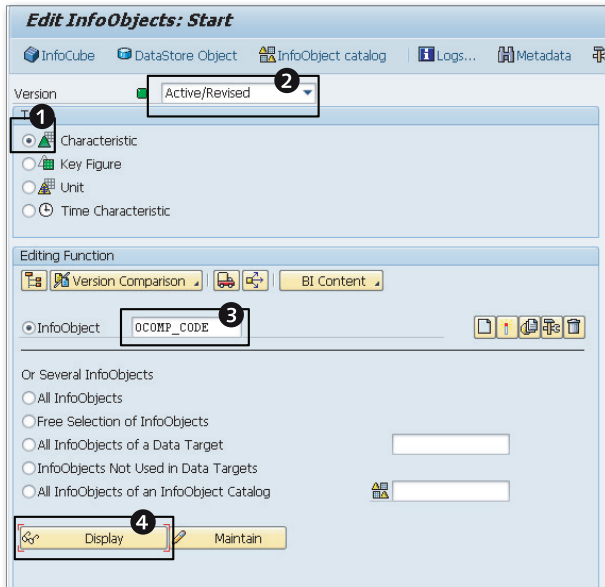

Figure 3.2 Checking the Status of an InfoObject
As illustrated in Figure 3.2, the following are the steps to check the status of an SAP-supplied InfoObject:
2. Under TYPE, select CHARACTERISTIC, and beside VERSION, select ACTIVE/REVISED (Figure 3.2, ❶ and ❷).
3. In the text field next to INFOOBJECT, enter the name of the InfoObject to check (Figure 3.2, ❸).
4. Click on the DISPLAY button (Figure 3.2, ❹).